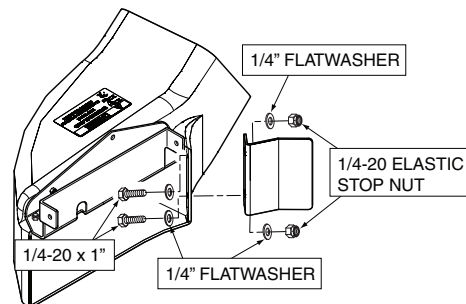

Figure 2-10. Deflector Baffle Installation
5. Install the deflector baffle included with the catcher Installation Kit to the discharge boot and secure using (2) 1/4-20 x 1" hex head bolts, (4) 1/4" flatwashers and (2) 1/4-20 elastic stop nuts. See Figure 2-10.